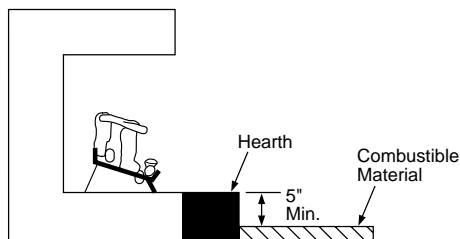

Figure 10 - Minimum Fireplace Clearances Above Combustible Flooring
B. If combustible materials are less than 14" to the fireplace, you must install appliance at least 5" above the combustible flooring (see Figure 10).